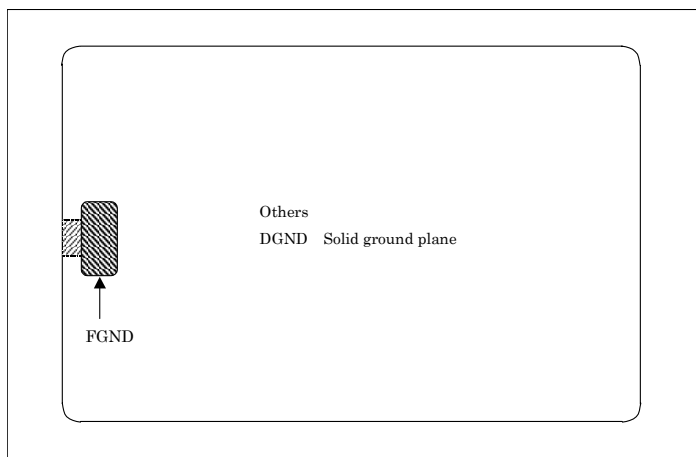

Figure 1 M3A-0037 second layer
- All the digital grounds (DGND) are solid ground plane except the areas near the USB connector on the second layer. Refer to the following Figure 1 .